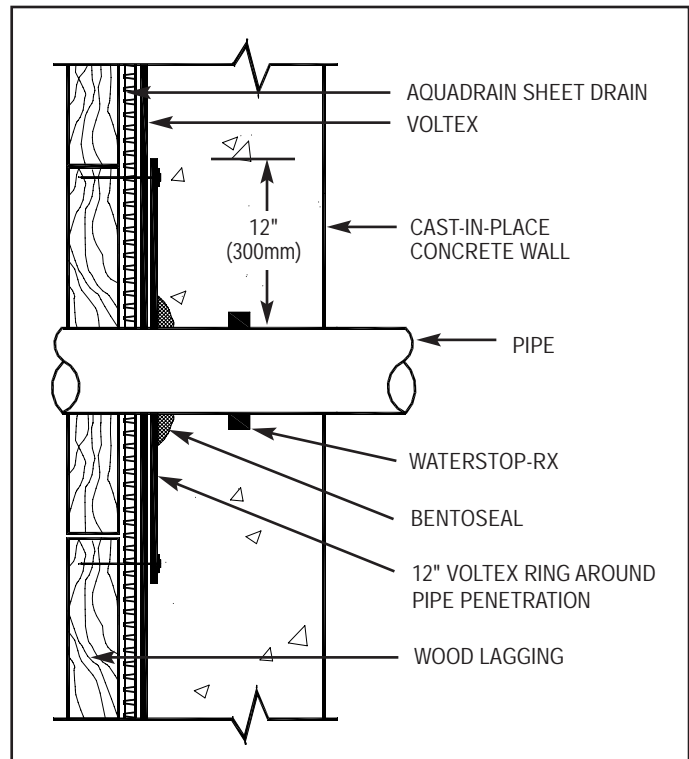

Figure 2.1 - WALL PENETRATION
**Penetrations:** Cut and secure Voltex sheet tightly around pipe penetrations (Figure 2.1). Then cut and secure an extra sheet section around the penetration; extending outward from the penetration a minimum 12" (300 mm) radius. Detail around penetration with  $\frac{3}{4}$ " (18 mm) thick cant of Bentoseal mastic. Extend Bentoseal outward over membrane a minimum 3" (75 mm) radius at minimum  $\frac{1}{4}$ " (6 mm) thickness. For sleeved penetrations, fill the gap between pipe and sleeve with non-shrink cementitious grout and install Waterstop-RX to both sides of sleeve.